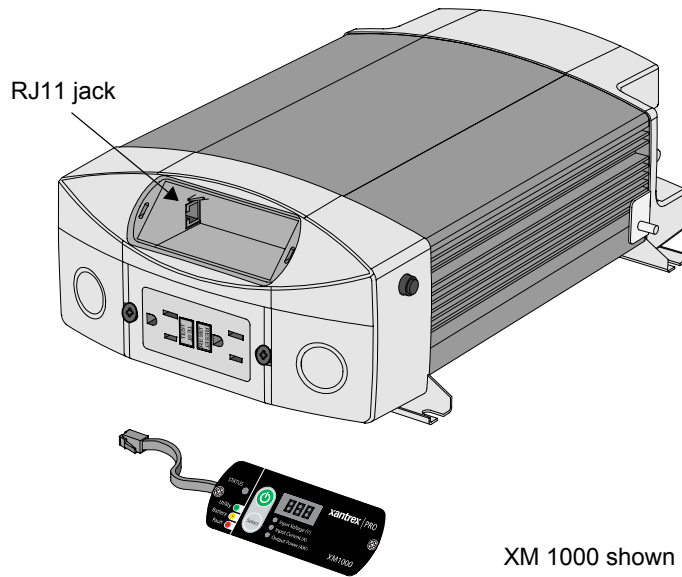

Figure 3-8 XM 1800 with Remote Panel Removed
4. Remove the remote panel and unplug the remote panel RJ11 cord from the jack (see Figure 3-8).